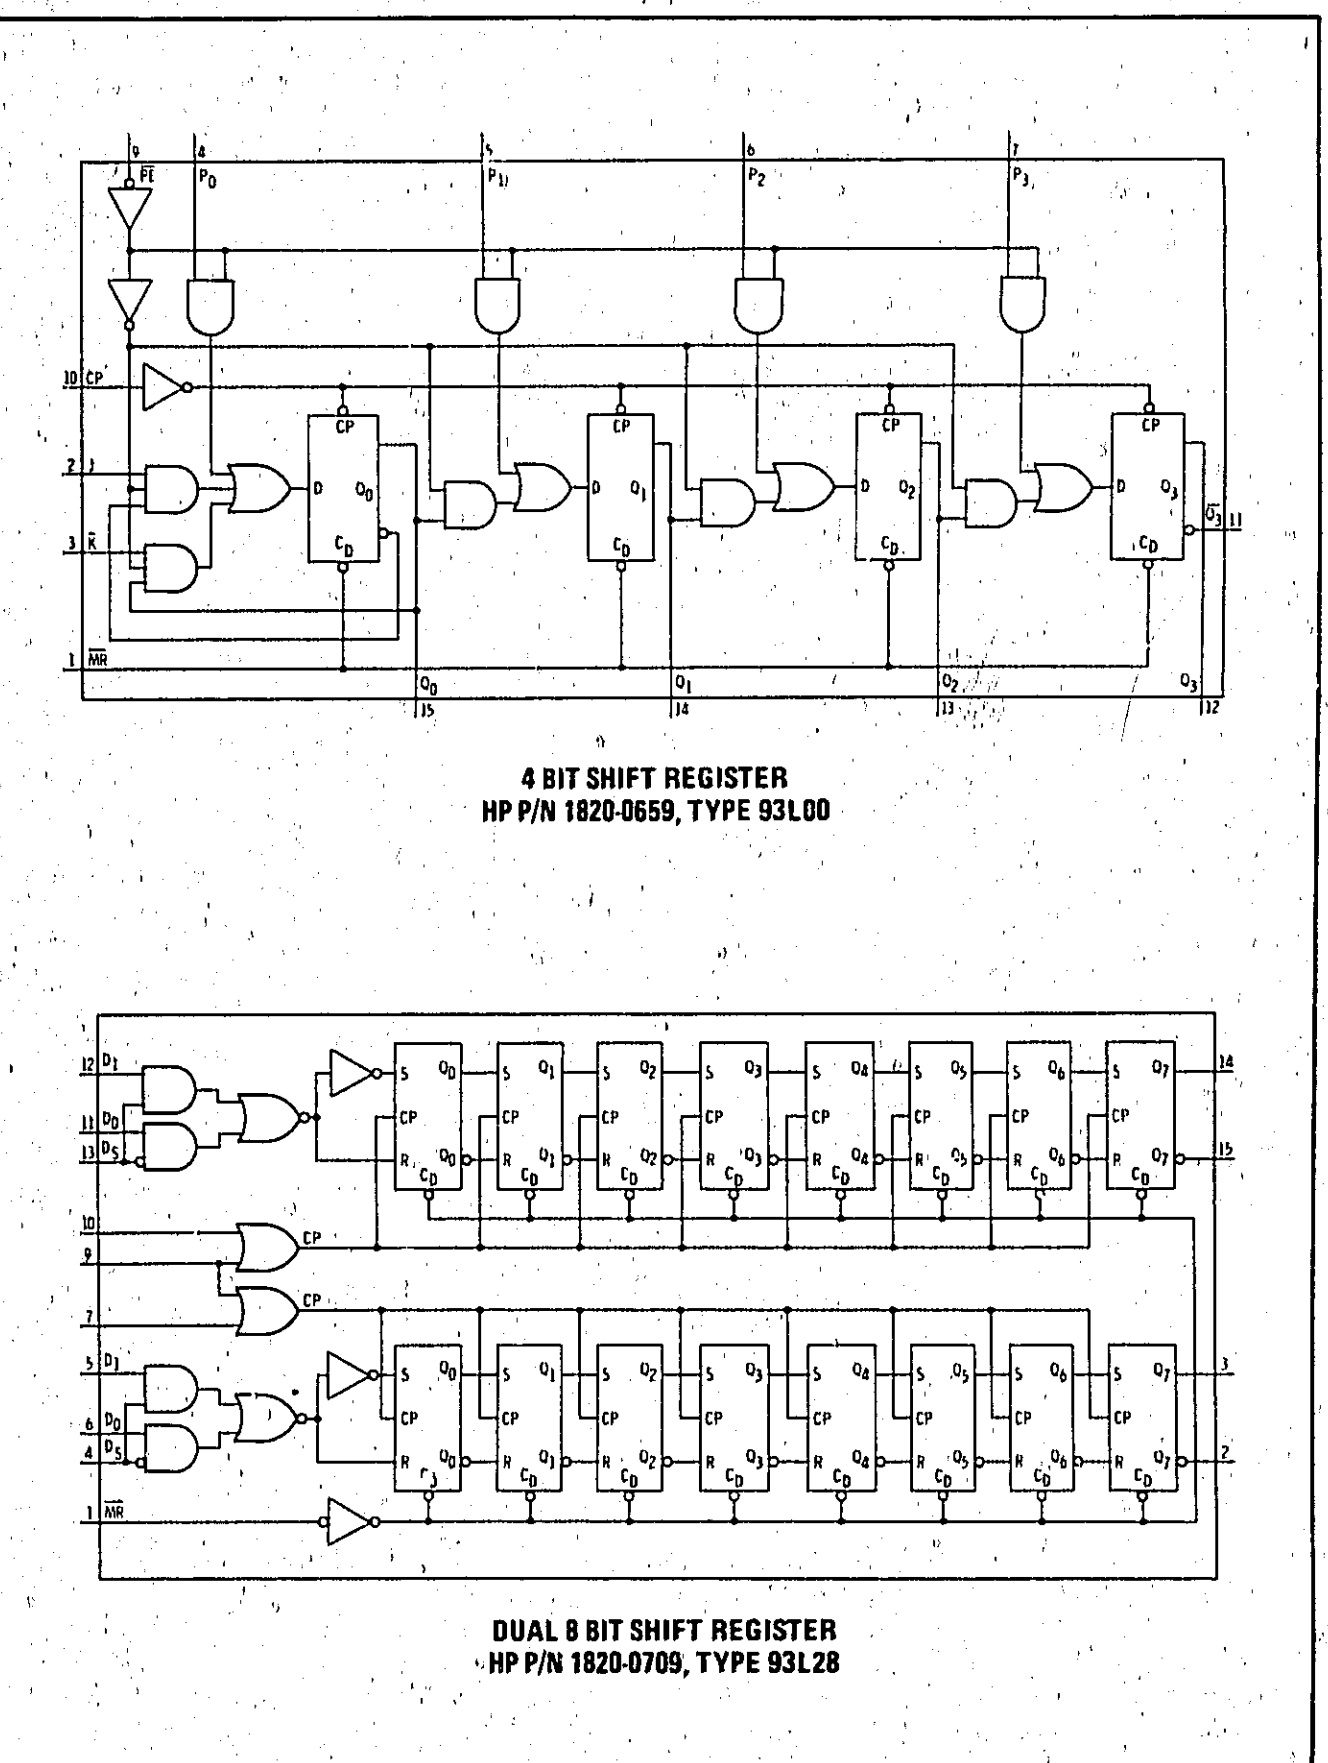

Figure 8-111. Logic Diagram of IC's Used in DCU Shift Registers
4. If the output signals from the ASM are correct, check that the data processing circuitry is correct. This can be done by checking that the data moves from register to register as it should. Logic diagrams of the IC's used in the registers are contained in Figure 8-111.